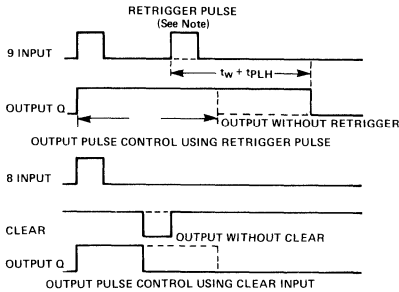

FIGURE 1—Typical Input/Output Pulses
The 25LS122 and 25LS123 multivibrators feature d-c triggering from gated low-level-active (A) and high-level-active (B) inputs, and also provide overriding direct clear inputs. Complementary outputs are provided. The retrigger capability simplifies the generation of output pulses of extremely long duration. By triggering the input before the output pulse is terminated, the output pulse may be extended. The overriding clear capability permits any output pulse to be terminated at a predetermined time independently of the timing components R and C. Enough Schmitt hysteresis is provided to ensure jitter-free triggering from the B inputs with transition rates as slow as 1 volt per second. Figure 1 illustrates triggering the one-shot with the high-level-active (B) inputs.